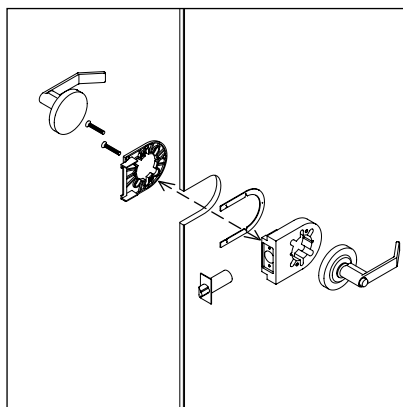

Figure 11 - Remove Door Handle
Note: Lightline accepts different door handle options. Figures 11 & 12 show only one type that is offered. Your installation may vary.
14. Remove door hardware/housing from door leaf (Figure 11).